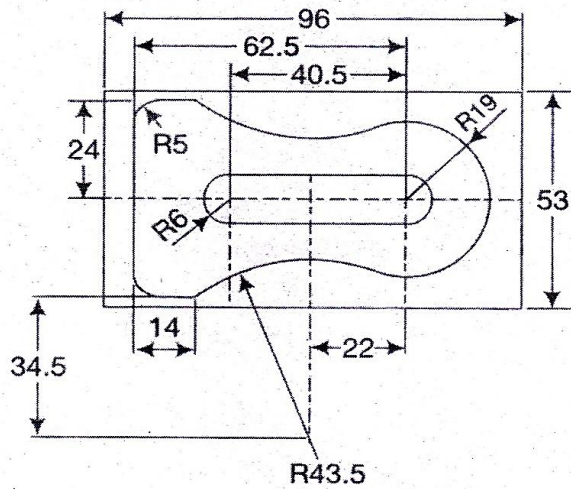

Fig. 1
- 15 Develop an APT part program for the profile shown in fig 1. The processing parameters are: